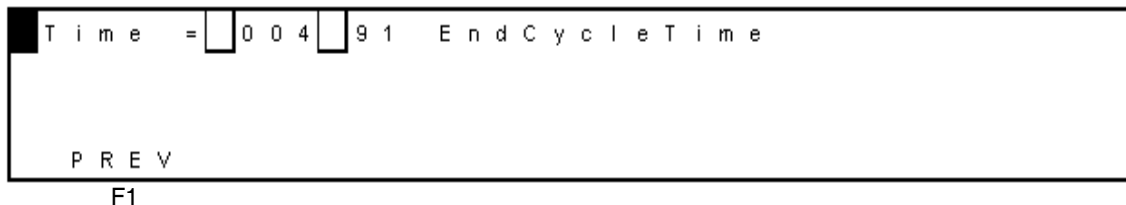

Figure 3-34 End Cycle Time Screen
- a. Select **F5 ENDCYCLE**. The End Cycle Time screen appears (Figure 3-34).